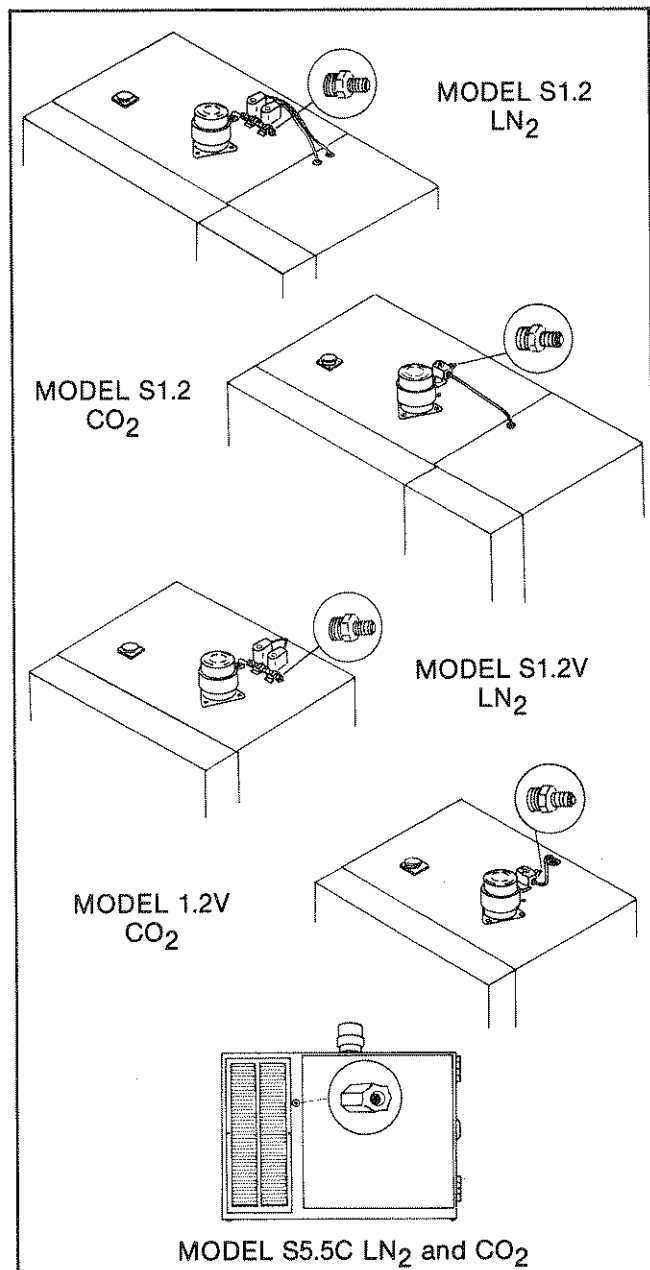

FIGURE A2
- a. Connect a clean, dry supply of either LN₂ at 30 PSI or CO₂ at 1000 PSI maximum to the inlet side of the control solenoid valve. See Figure A2.